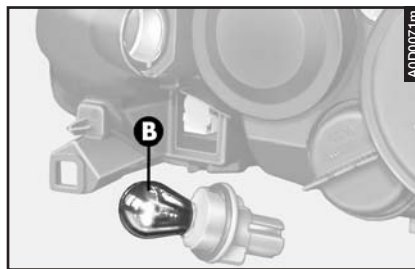

fig. 36
- Remove the bulb (**B- fig. 36**) from the bulb holder, pushing it slightly and turning it counter-clockwise.